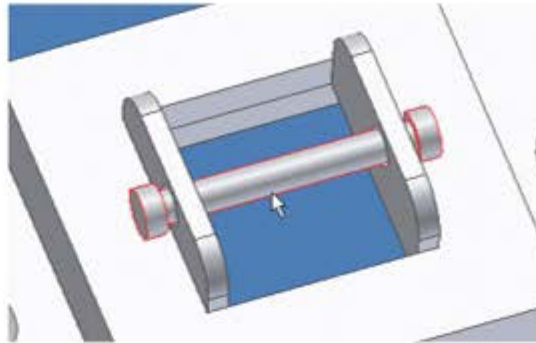

Figure 16–58
8. The pin is constrained in the holes on the part, as shown in Figure 16–58. How would you precisely control the distance between the pin heads and the sides of the part?